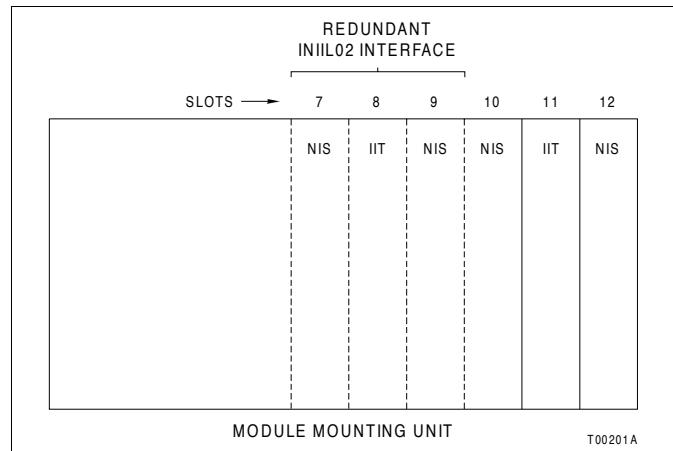

Figure 3-7. Typical INIILO2 Module Slot Assignment
1. There must be three empty slots (side by side) available in one module mounting unit to install one interface. Redundant interfaces require six slots (refer to Figure 3-7).